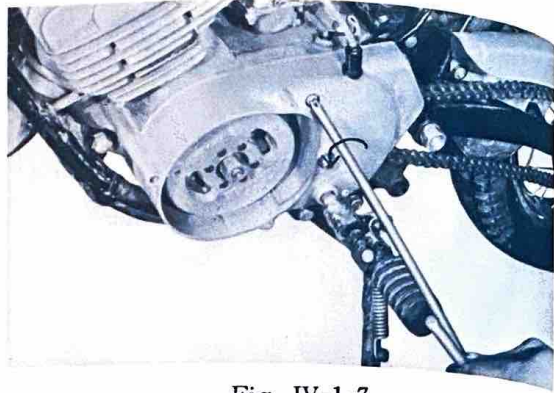
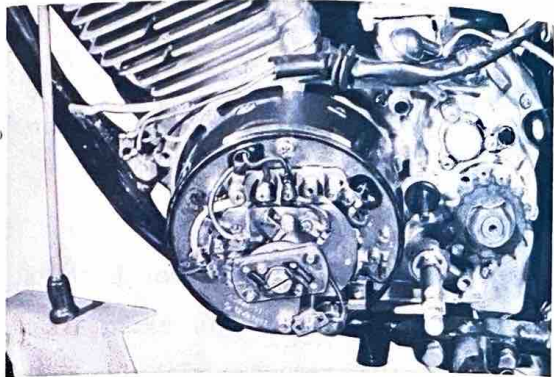

Fig. IV-1-7
Fig. IV-1-8
5. On the AT1-C, equipped with a dynamo, all wire leads should be removed from the stator terminals. (Fig. IV-1-8.) On the AT1-MX, equipped with a flywheel magneto, the wiring should be disconnected from the wire harness center at its connector. (Fig. IV-1-7)